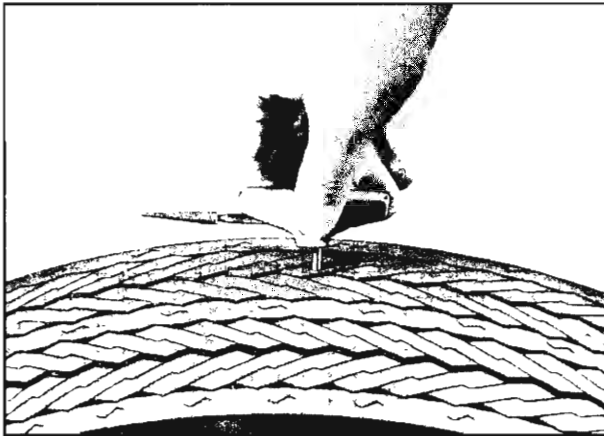
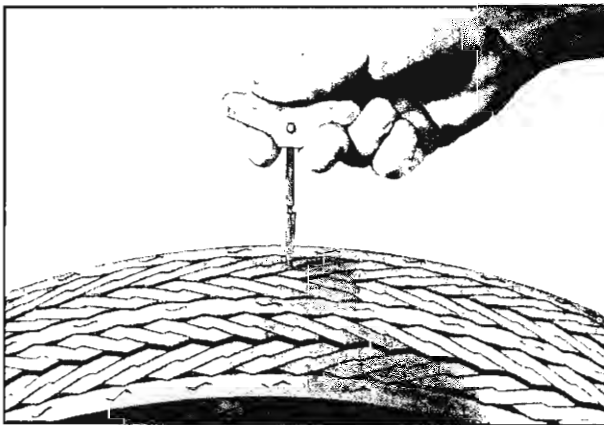

Fig. 39—Making Circular Cut With Reaming Tool
Fig. 40—Cleaning Puncture With Cleaning Needle
3. With cutter shaft of reaming tool in position, make circular cut (approx. $\frac{1}{4}$ -in. deep) around puncture hole, using twisting action (fig. 39).
4. Flip the screw-type cleaning needle of reaming tool into position and insert into puncture (fig. 40). Apply light pressure only and turn clockwise into puncture channel right down to the handle of the tool, carefully following the direction of the puncture. Retract tool by continuing to turn clockwise but with slight pulling action. Repeat this operation twice. Clean rubber particles, if any, from round cutter of needle, after each retraction. Make sure the small circular cutout resulting from operation shown in Figure 39 has been